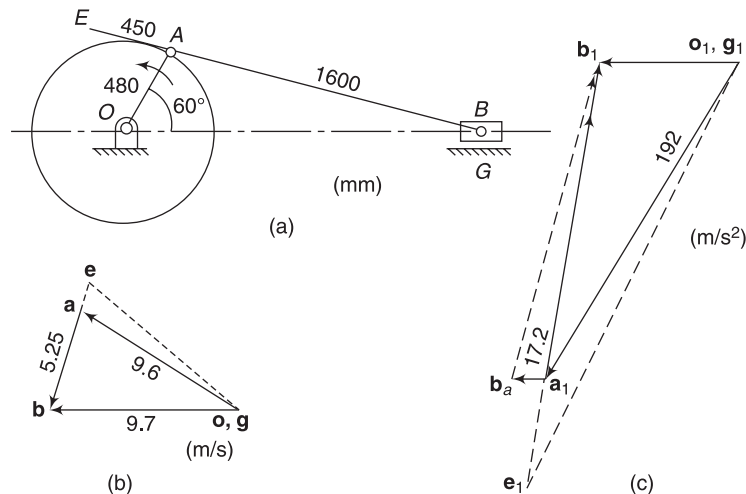

Fig. 3.6
Example 3.2 For the configuration of a slider-crank mechanism shown in Fig. 3.6(a), calculate
Complete the velocity diagram as shown in Fig. 3.6(b).
- Take the pole point \mathbf{o}_1 or \mathbf{g}_1 [Fig. 3.6(c)].